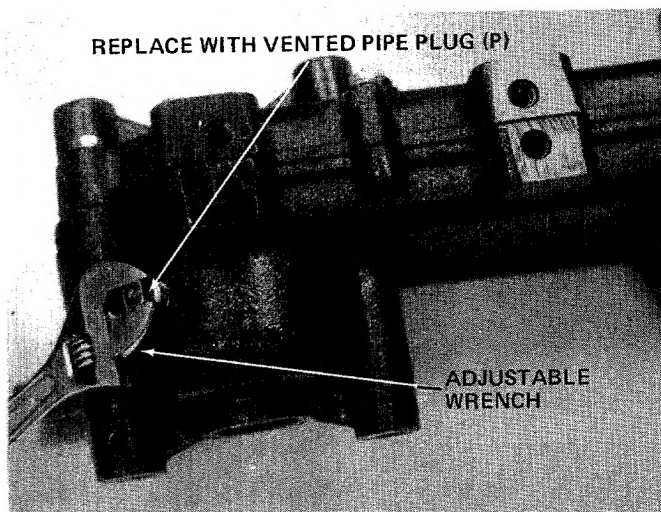

FIGURE 2
2. Place the gear box so that the pipe plug is up, as shown in figure 2.
3. With an adjustable wrench remove the pipe plug and replace with vented pipe plug (P) provided in hardware parts pack. See figure 2.
4. Assemble the right and left hand tine assemblies to gear box, with four spring pins (E). A hammer is required. See note below before continuing.